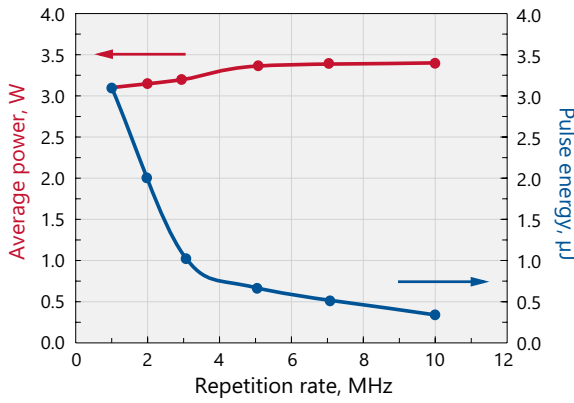
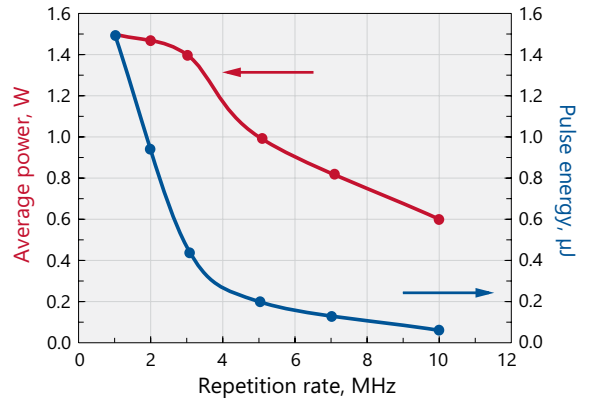

Fig 1. Typical dependence of output power and pulse energy of FemtoLux 3 laser at 1030 nm when changing internal repetition rate of the laser
Fig 2. Typical dependence of output power and pulse energy of FemtoLux 3-GR laser at 515 nm on pulse repetition rate
2) See typical power and energy curves for other pulse repetition rates at Fig 1, Fig 2. and Fig 4.